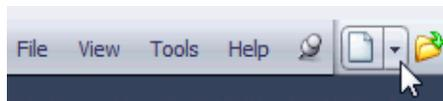

Figure 4 New document icon menu bar
- 3 Click the **New** icon on the menu bar to open a new file. See Figure 4.